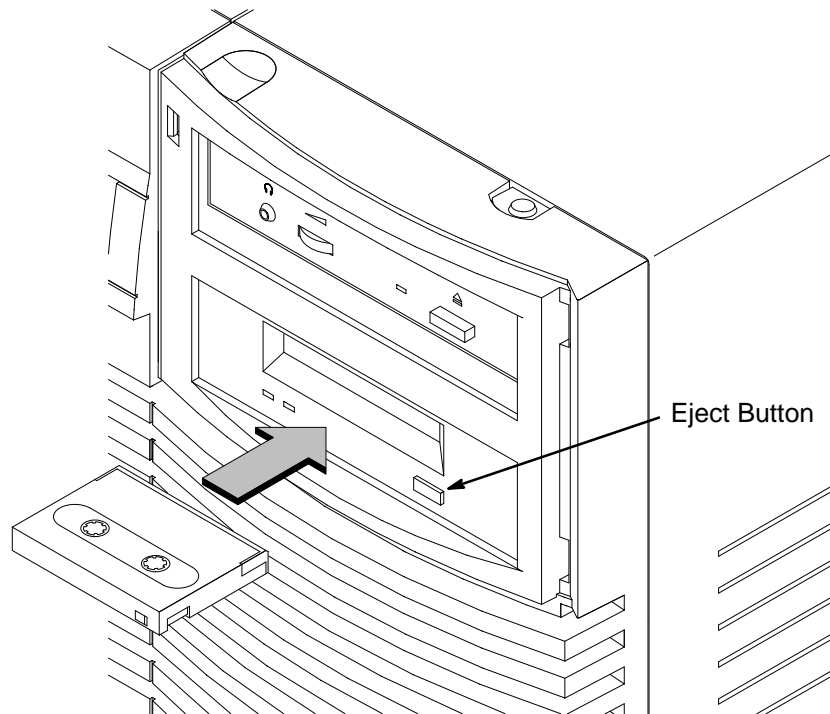

Figure 2-3. Loading a Data Cassette
- 2.** Insert the data cassette into the drive, as shown in Figure 2-3.